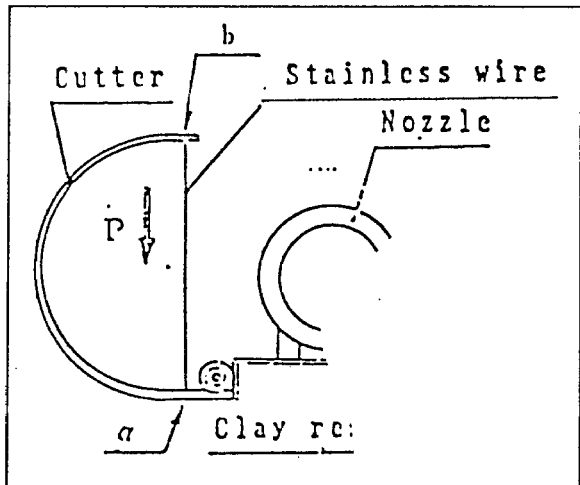

fig. 12
■ To replace clay cutter stainless wire (fig. 12):